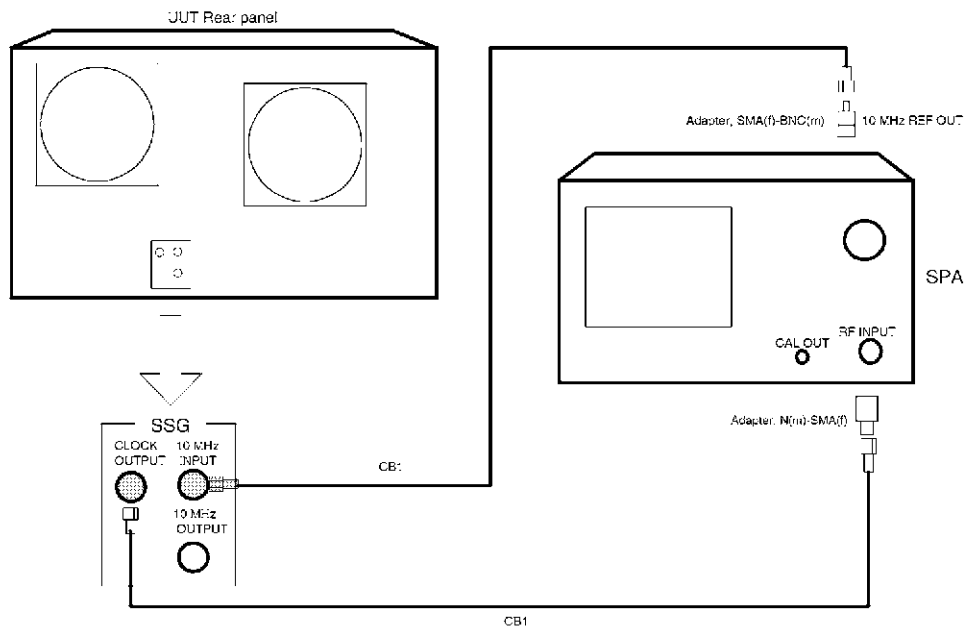

Figure 1-21 Setup of External Reference Input Test
1. Connect equipment as shown in Figure 1-21.